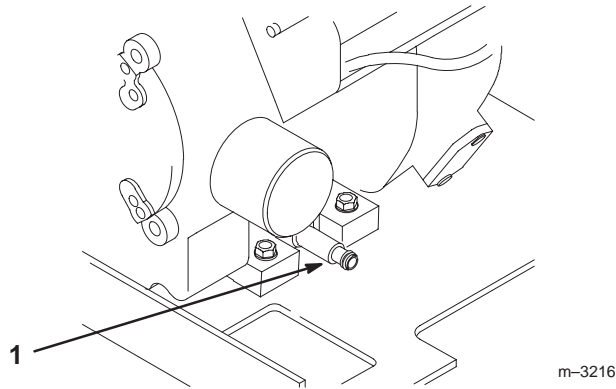

Figure 22
5. Open the drain valve by turning it counterclockwise, pulling out as you turn it (Fig. 22).